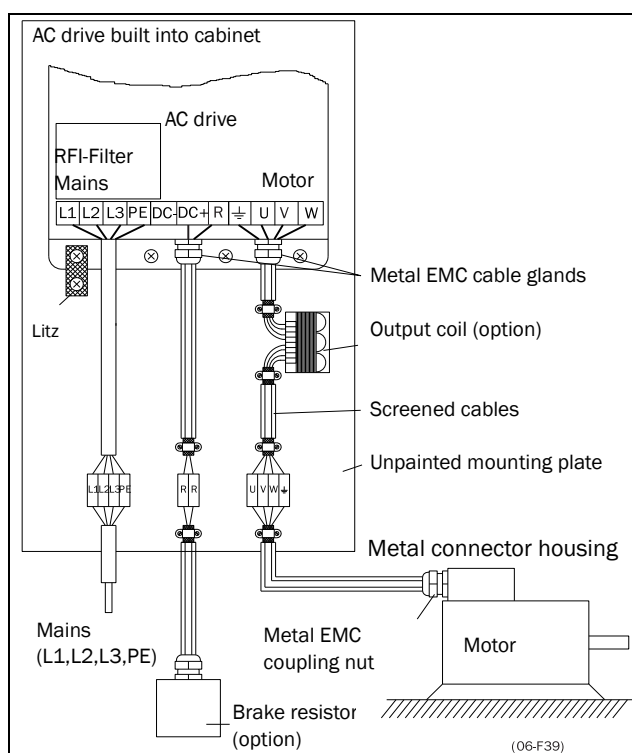

Fig. 35 AC drive in a cabinet on a mounting plate
- The litz ground connection see fig. 35, is only necessary if the mounting plate is painted. All the AC drives have an unpainted back side and are therefore suitable for mounting on an unpainted mounting plate.
- The litz ground connection, see fig. 35, is only necessary
If the motor cables are to be interrupted by maintenance switches, output coils, etc., it is necessary that the screening is continued by using metal housing, metal mounting plates, etc. as shown in the Fig. 35.
- If the AC drive is mounted in a standard cabinet, the internal wiring must comply with the EMC standard. Fig. 35 shows an example of a AC drive built into a cabinet.